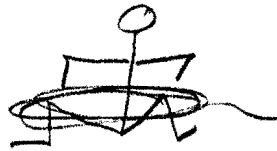

Figure 3.3. Lap Coil.
c) Lap Coil. For the lap coil, the rescuer wraps the rope from knee to knee while he sits with his feet together. See figure 3.3. The lap coil is especially well suited to people with short legs whose mountaineer's